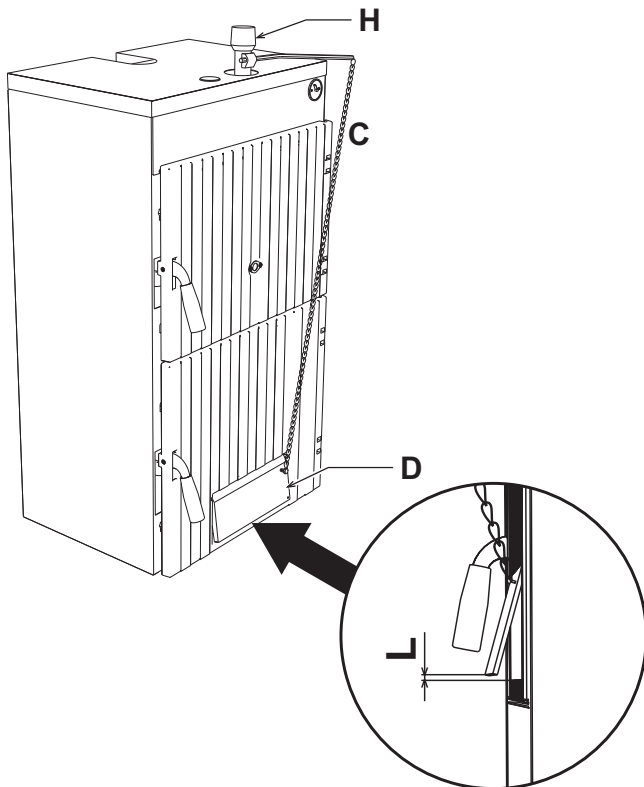

fig. 2 - Installation
2. Fit the thermostatic regulator "H" fig. 2.
4. Adjust the air inlet door adjustment screw so that with the door touching there is in any case an air passage of approx. 1 - 2 mm (max.). With boiler cold, set the control thermostat to 60°C. Hook the chain "C" to the special air inlet door eyelet "D", adjusting its length so that the air passage "L" (fig. 2) is approx. 15 mm for "coke III" and 2 mm for "wood".
The secondary air control device must be set during the commissioning stage. Adjust the air inlet door adjustment screw so that in any case there remains an air passage of not more than 1 - 2 mm. With the boiler cold, set the thermostat to 60°. Hook the chain to the special air inlet door eyelet, adjusting its length so that the air passage "L" (fig. 2) is approx. 15 mm for "coke III" and 2 mm for "wood".